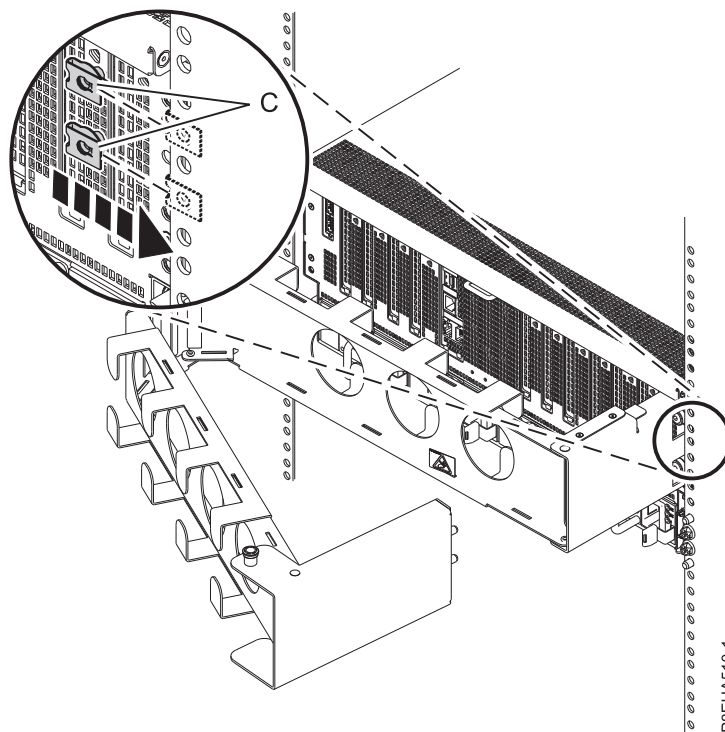

Figure 18. Attaching the nut clips to the rack rail
2. Slide the system drawer forward so that you can access the frame. Attach two nut clips (C) to the rack rail in the location where you are attaching the outer plate to the rail, as shown in Figure 18.